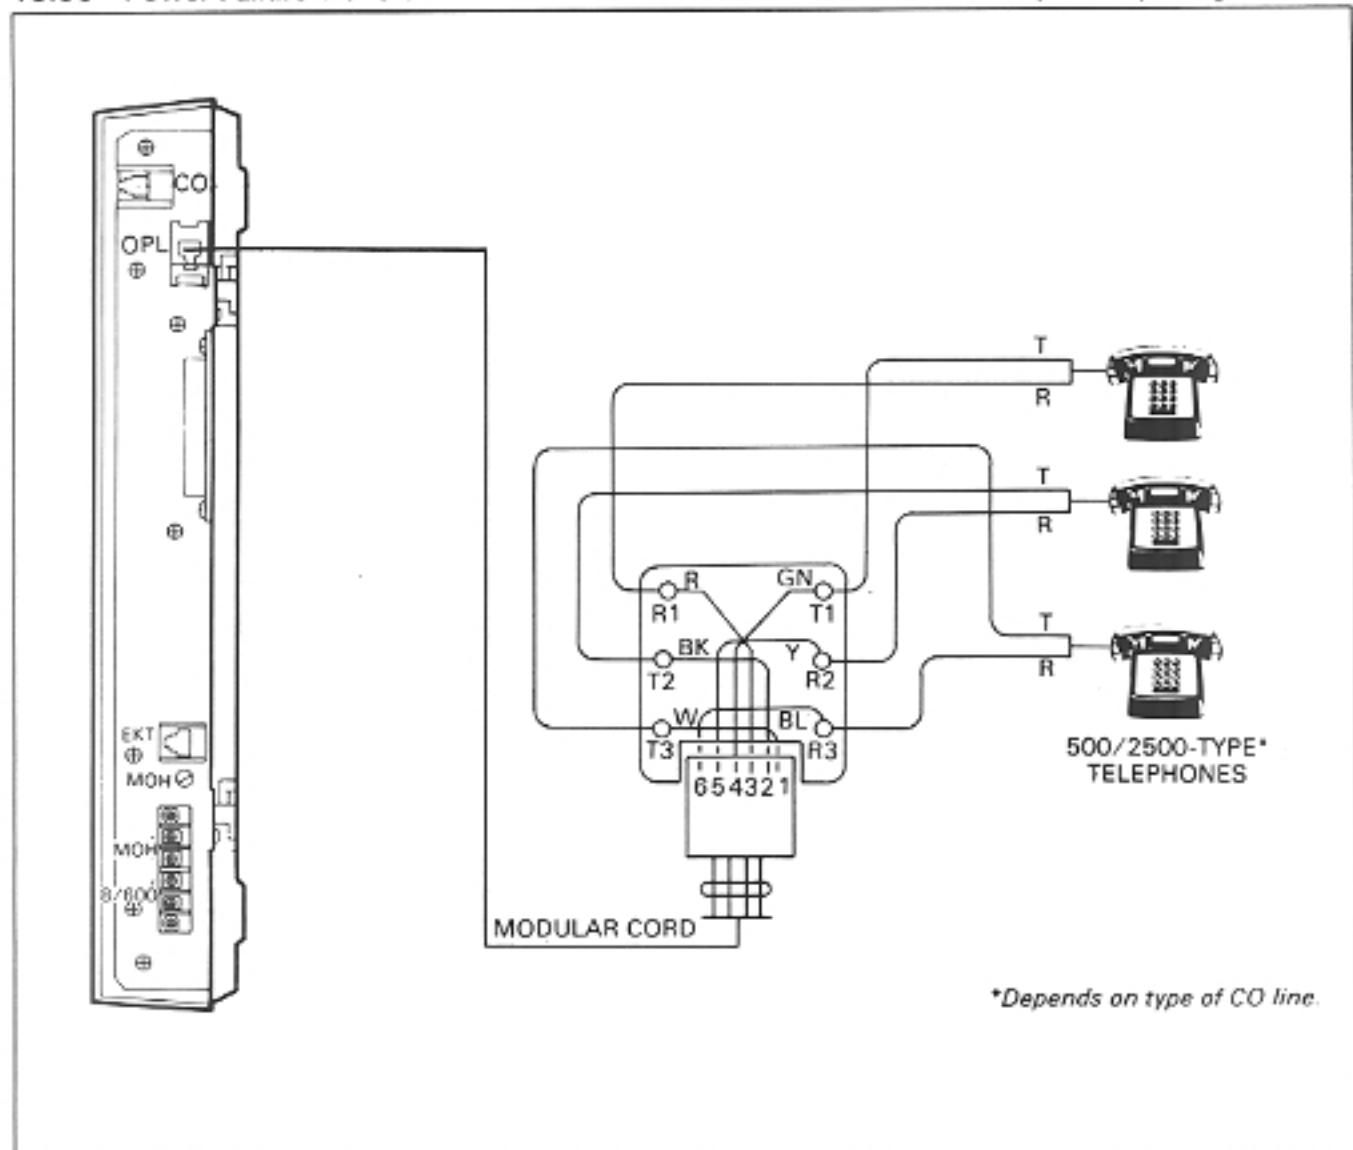

FIGURE 34—PFT TELEPHONE CONNECTIONS
**13.55** Connect the telephones per Figure 34.